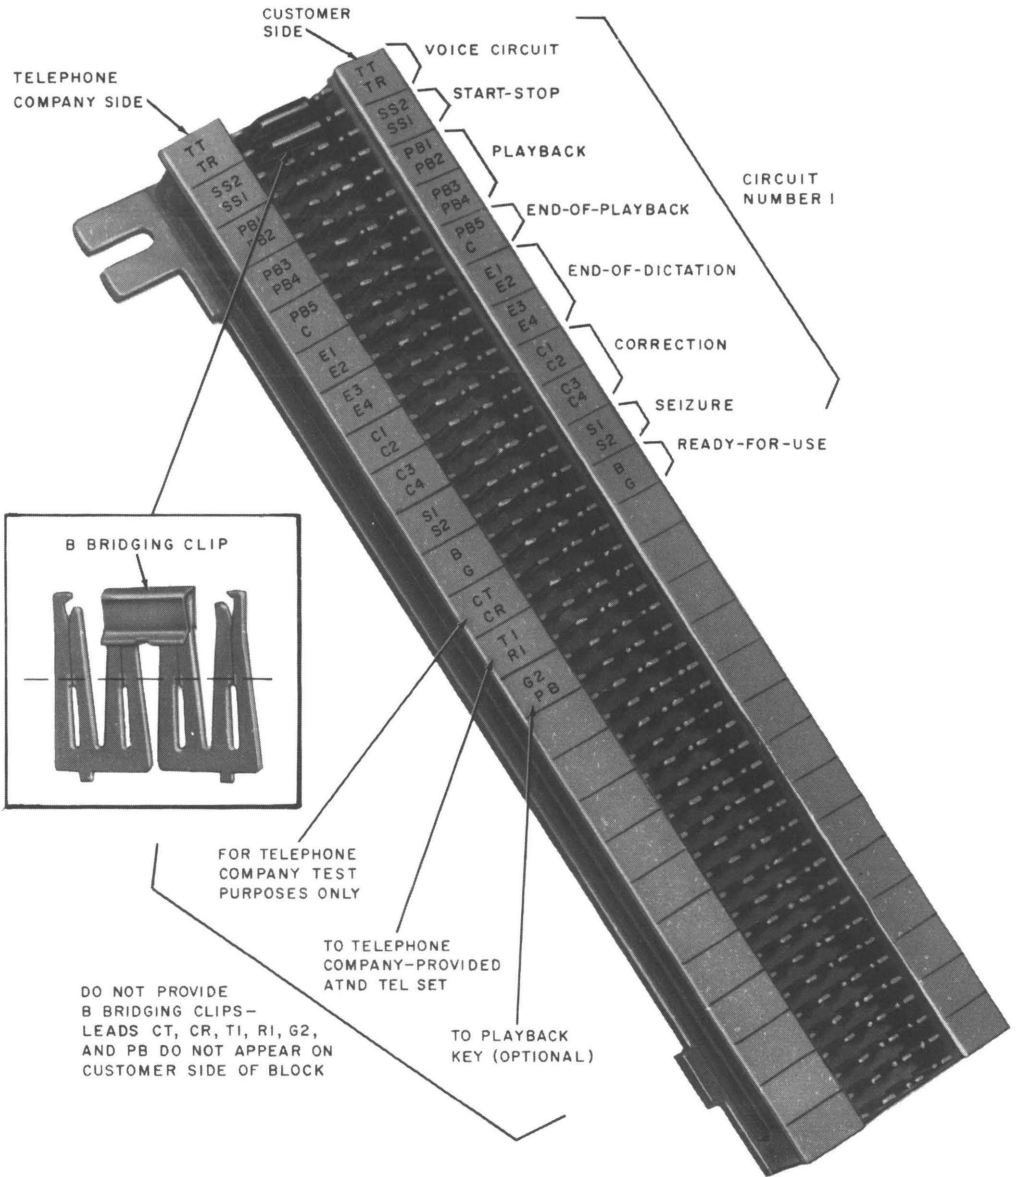

Fig. 5—Typical Interface Connecting Block
**3.02** Use the "D" inside wiring cable or equivalent to terminate the leads associated with the CP equipment, the Telephone Company-provided attendant telephone set, the playback key, and the Telephone Company test line on the interface connecting block. Stencil trunk number and lead designations on interface connecting block designation strip (Fig. 5).